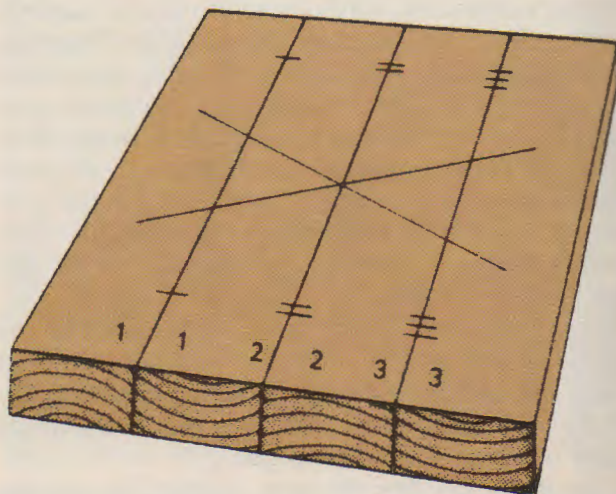

Fig. 33-23. Lightly mark workpieces with a pencil to identify mating joints.
3. Arrange the end grain pattern and mark mating joints, Fig. 33-23.